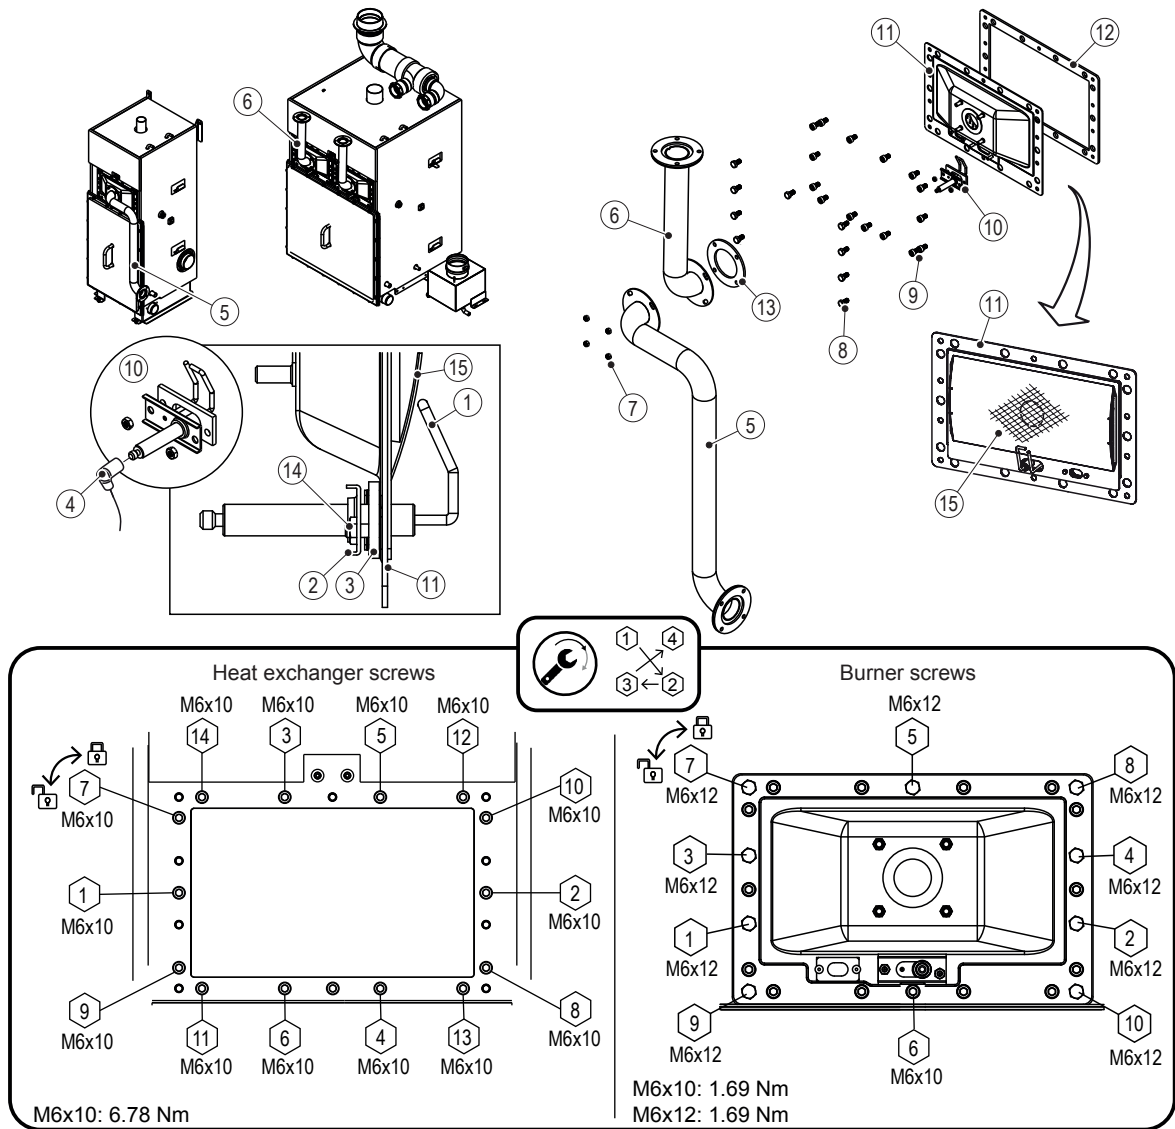

Fig. 16: Cleaning the Burner Assembly
The burner(s) in the Condair GS humidifier does/do not require maintenance. However, if the burner(s) is/are not operating properly, clean the burner(s) and spark-igniter(s) as described below. Refer to Fig. 16 on page 62.
10. Apply nickel anti-seize lubricant (Loctite® LB 771™ or equivalent) to the M6×12 hex-head bolts before assembly. Install with M6 lock washers. Wipe off excess lubricant. Torque the **M6x12 bolts and M6x10 bolt to 1.69 Nm**. Refer to Fig. 16 on page 62